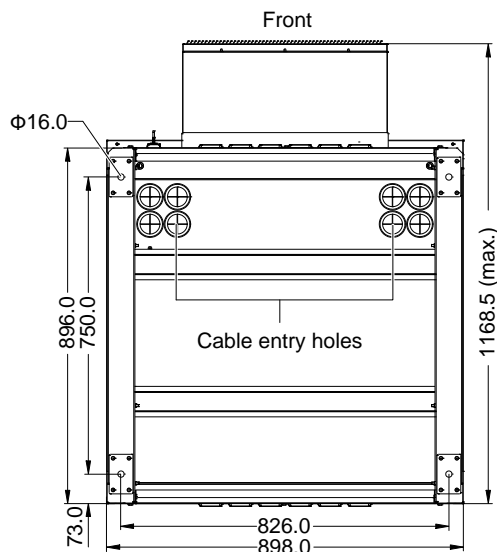
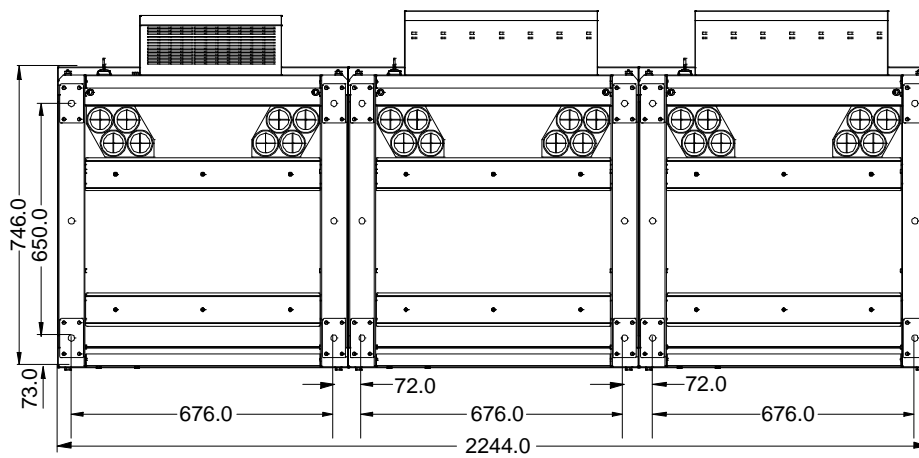

Figure 2-1 Installation dimensions (800mm x 800mm) of single cabinet base (Unit: mm)
Figure 2-4 Installation dimensions (650mm x 650mm) of multi-cabinet base (Unit: mm)
1. Determine and mark the central point of each installation hole on the ground by referring to dimensions shown in Table 2-5, Figure 2-1 to Figure 2-4. Drill installation holes (depth: 70mm) at the marked positions by using a Φ16 drill. Clean the dust off the holes, and insert an expansion pipe into each installation hole. Note: The cement base should be at least 200mm higher than the ground and the horizontal error should be equal to or less than 5mm. The recommended concrete type is C25. See for parallel connector installation.